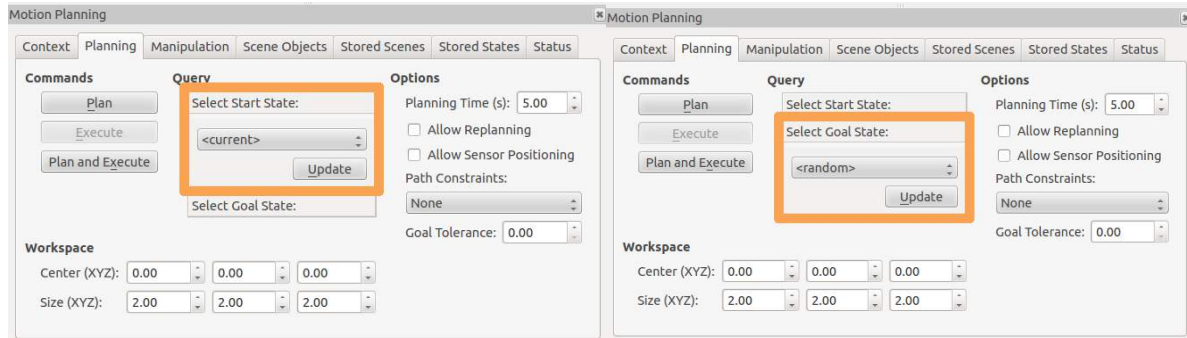

Figure 89: Tab to set start state (left) and tab to set goal state (right).
3. In order to use motion planning a Start State and Goal State has to be known, to do this with the *MoveIt!* GUI navigate to the tab called “Planning” in the display called MotionPlanning. On this tab further nested tabs provide the functionality to update Start State and Goal State depicted in figure 89.